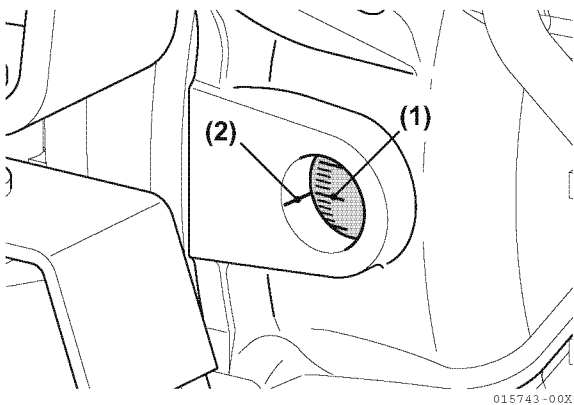

Figure 6-62
2. Rotate the flywheel until the target timing mark (**Figure 6-62, (1)**) and the timing reference mark (**Figure 6-62, (2)**) on the flywheel housing are aligned. *NOTICE: Do not rotate the crankshaft during the remainder of this procedure.*